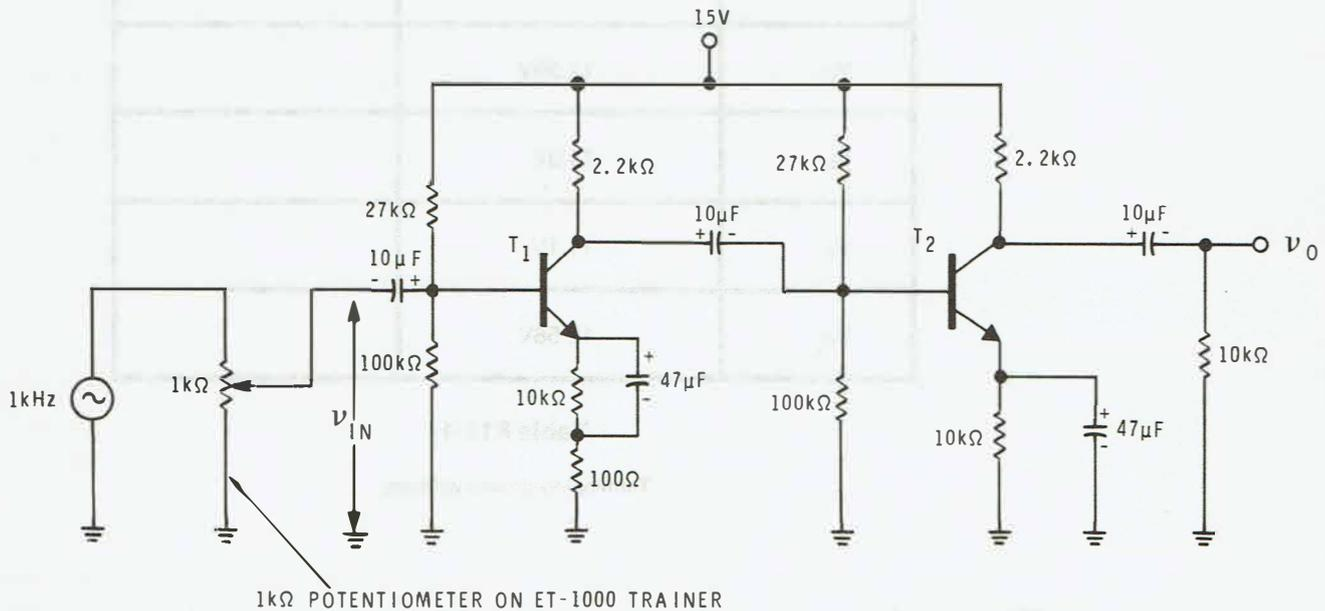

Figure E11-1
1. With the power off, construct the circuit shown in Figure E11-1. Make sure the electrolytic capacitors are placed in the circuit with the correct polarity.
The output resistance of a common-emitter amplifier is approximately equal to R_C . The output resistance of the amplifier in Figure E11-1 should be approximately $2.2\text{k}\Omega$.
The amplifier in Figure E11-1 was designed to provide a “typical” second-stage gain of 50, and a first-stage gain of 10, with a total voltage gain of 10 (50) or 500. Assuming the actual stage gains are 10 and 50 respectively, the value of v_{B_2} and v_{IN} required for a 0.5V output voltage are: